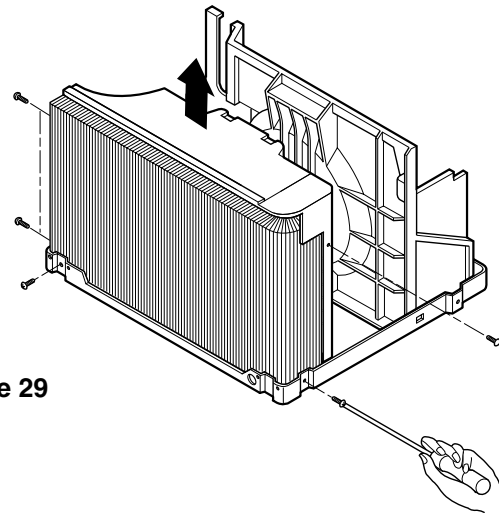

Figure 29
6. Re-install the components by referring to notes. (See Figure 29)